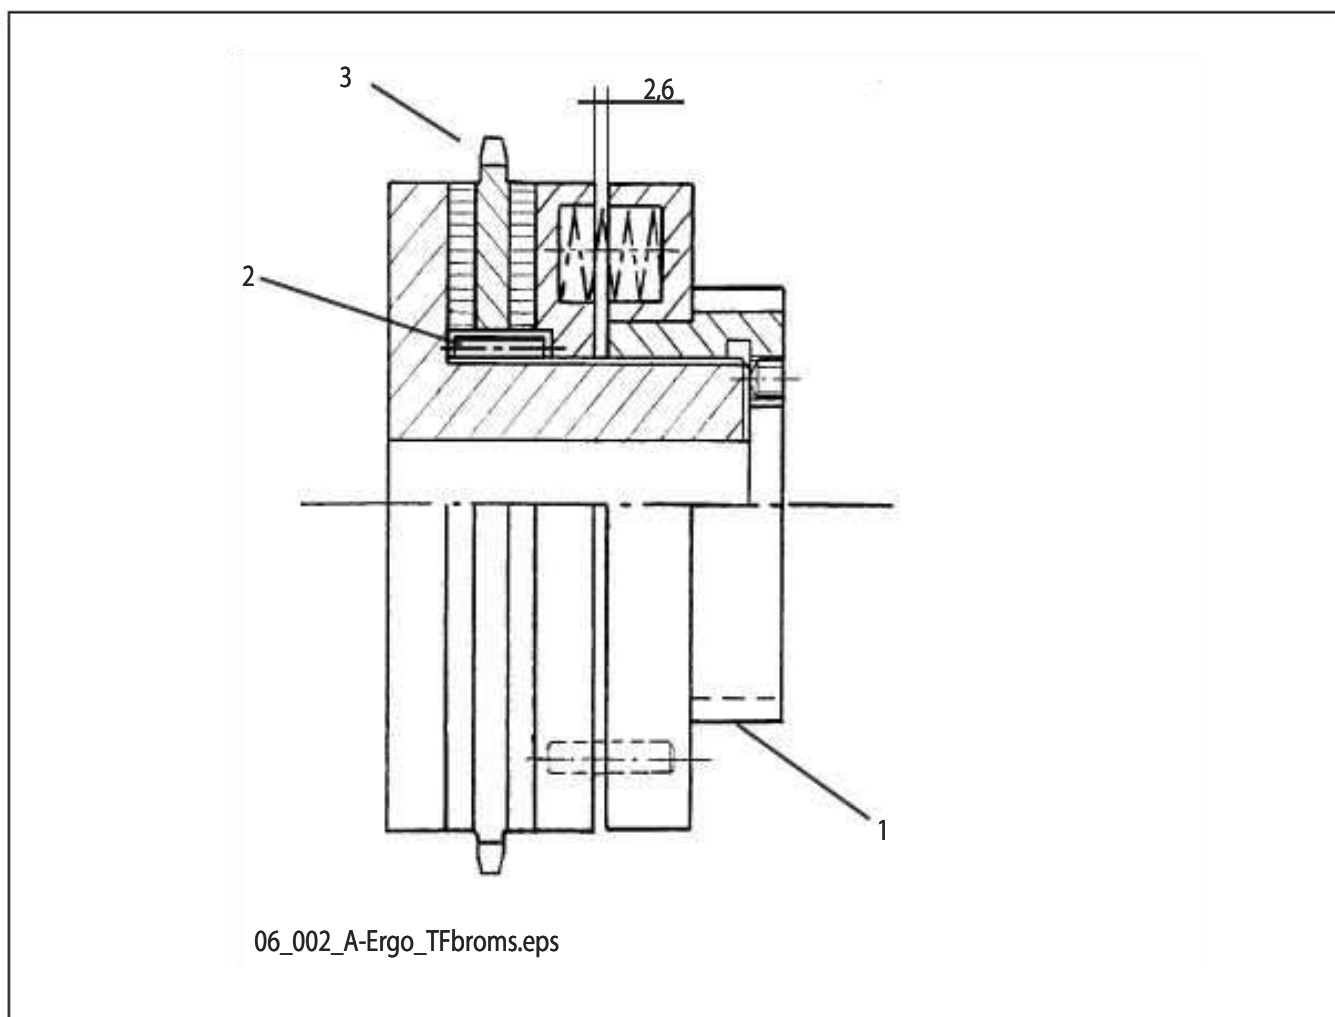

**Figure 6.35** Overload clutch
The spring tension is not adjustable since the tensioning nut, pos. 1, should be fully screwed in and locked with stop screws. The bearing, pos. 2, and sprocket, pos. 3, should be lightly lubricated with cold-resistant grease (-35°C), see figure 6.35.